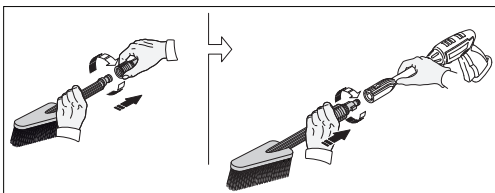

Fig. 9
- When using the fixed brush. Attach the fixed brush adapter by screwing the adapter clockwise onto the end of the brush (Fig. 9). Then press the fixed brush into the spray gun and turning clockwise simultaneously.